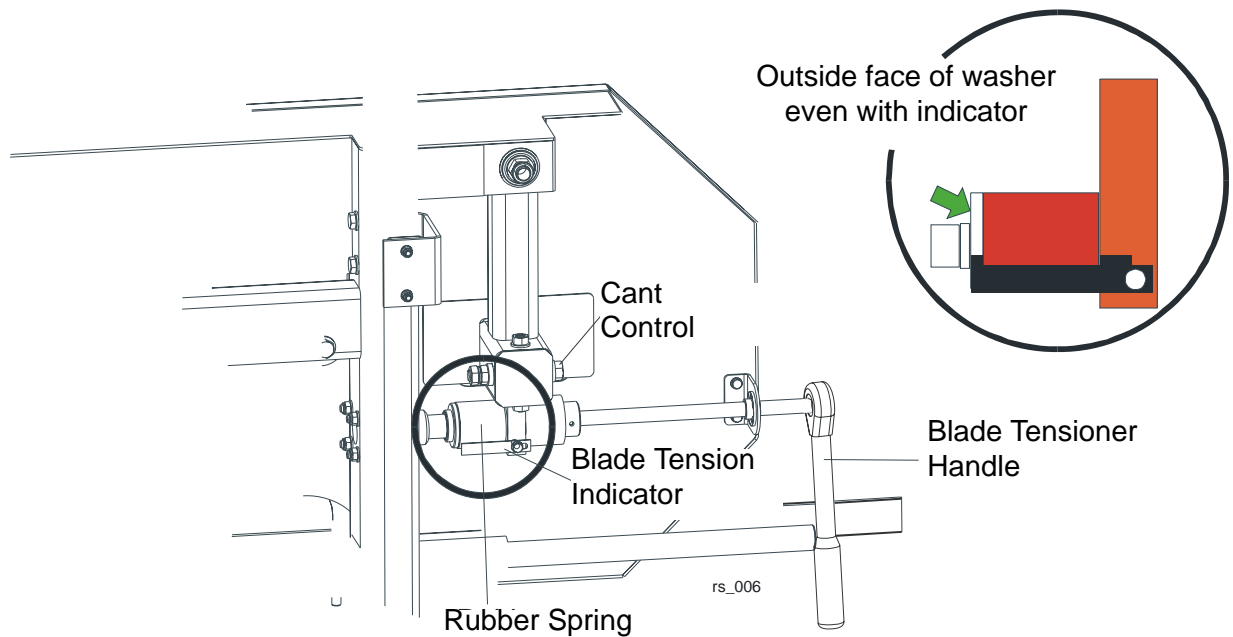

FIG. 2-7
See Figure 2-7. Place the provided ratchet on the blade tensioner shaft. Turn the ratchet clockwise until the outside face of the rubber spring washer is even with the indicator (see the figure below). Check the blade tension occasionally when adjusting the cant control or while cutting and adjust if necessary. As the blade and belts heat up and stretch, the blade tension will change. Also, ambient temperature changes can cause tension to change.
5. Use the cant adjustment bolt, shown in **Figure 2-7**, to adjust where the blade travels on the blade wheels.